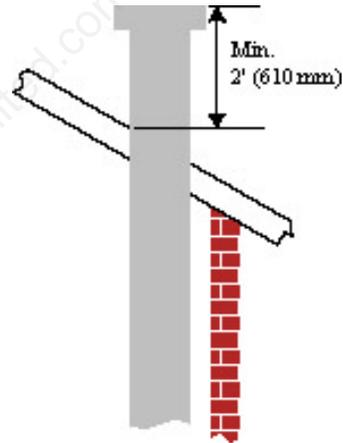

Fig. 31
- The minimum height of the vent termination above the highest point of penetration through the roof is 2' (610 mm), Fig. 31.
10. Add additional vent lengths to achieve the require termination height. Fig. 31.